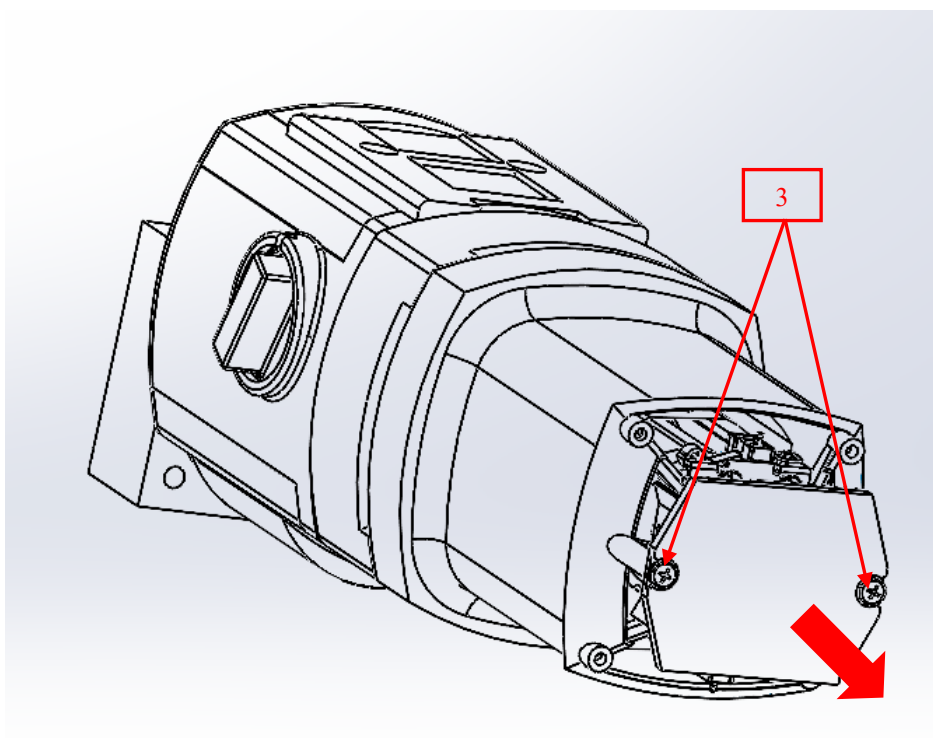

Figure 5.9
5.2.3 Unscrew the two screws as shown in figure 5.9 – position 3 and pull the motor board in the direction of the arrow (Fig. 5.9);